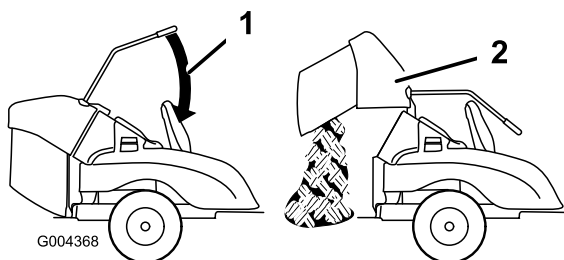

Figure 16
3. Raise the collection bag by extending the DFS lever and then pulling down (Figure 16).